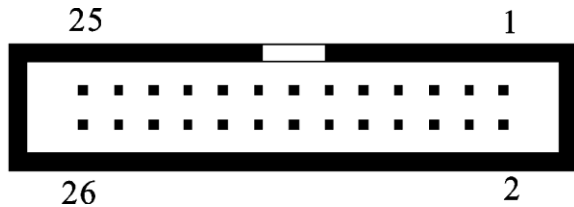

Fig.3-1
■ The 26-pin dual socket of parallel panel is as Fig. 3-1 shows: